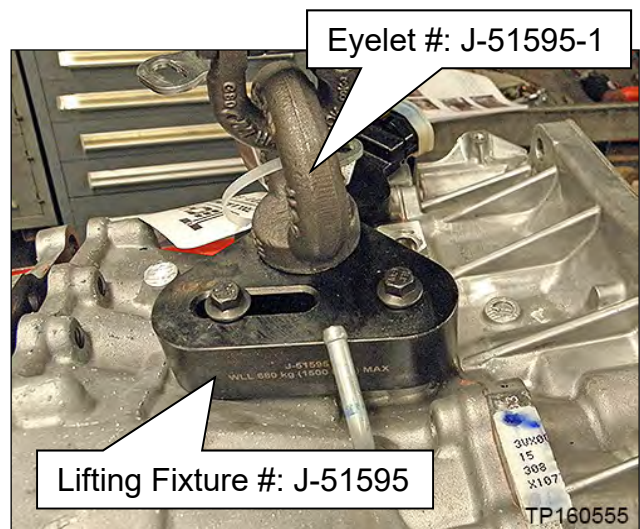
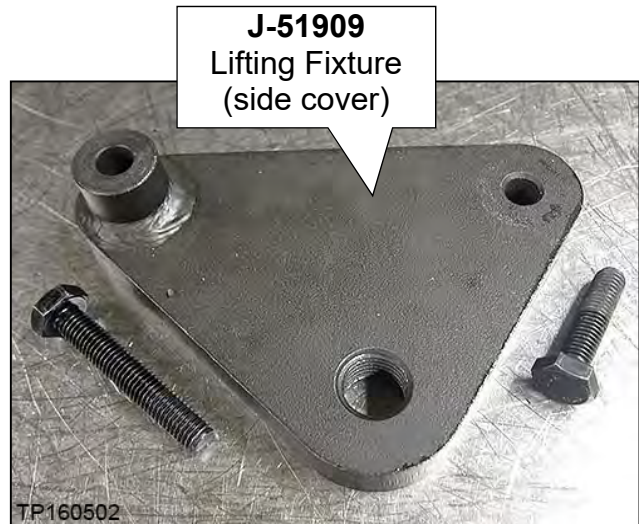
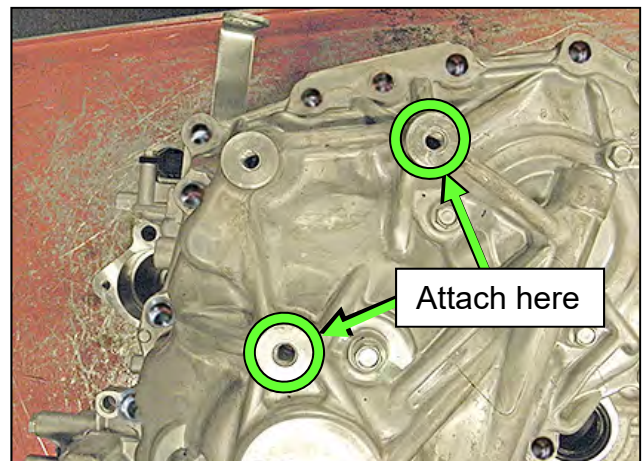

Figure 66
Figure 71
Figure 72
- See Figure 66 for lifting fixture information.
52. Attach Lifting Fixture J-51909 (Figure 71) with eyelet from J-51595 (Figure 66) to the side cover at point shown in Figure 72.